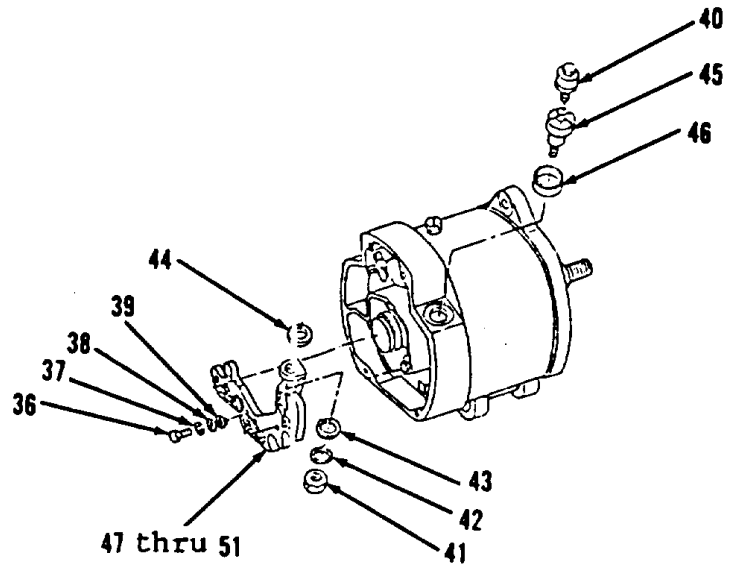

Figure 4-5.
19. Remove stud (40).
20. Remove nut (41), lockwasher (42), washer (43), gasket (44), stud (45) and gasket (46) and items 47 thru 51 as an assembly. Discard gaskets (44 and 46). Remove all gasket material from mounting surfaces.
21. Remove three bolts (36), lockwashers (37), washers (38) and insulators (39) from heat sink (51, Figure 4-5).